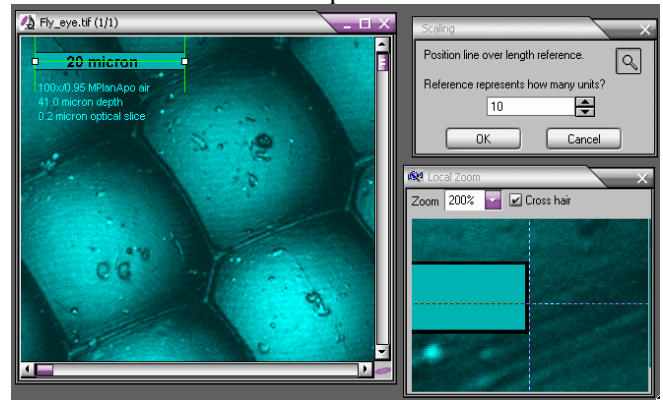
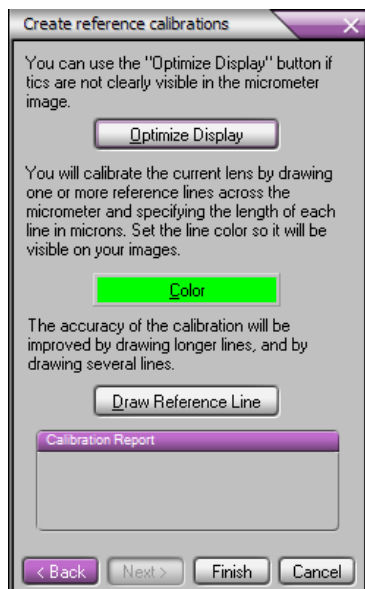

Figure 2. Drawing a reference line.
Figure 8. Creating Reference Lines
- Draw reference lines across features of known sizes (Fig. 2). Multiple lines may be drawn and averaged to improve results. Note that the Local Zoom tool will appear. Turning on the crosshairs in the Local Zoom may be helpful in positioning your reference lines on the image.
- Click 'Next>'. The 'Draw Reference Line' button appears in the accompanying menu (Fig. 8). Mark reference lines on the captured image as you would for individual image calibrations (Fig 2, above). You may create more than one line to improve the accuracy of the measurement.